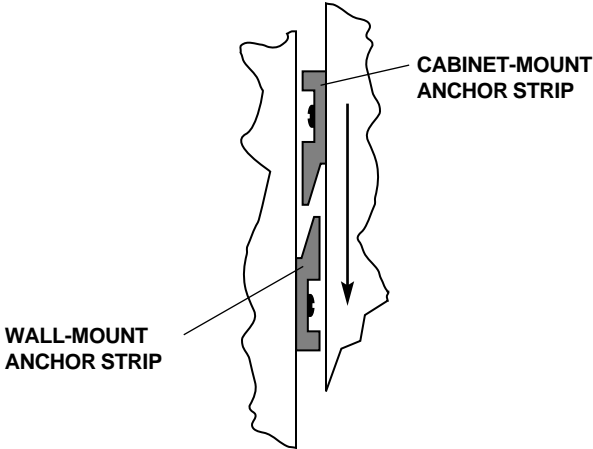

FIGURE 11
- 2. Lift the cabinet assembly and place it against the wall. Slide it down so the mounting anchor clips engage (see Figure 11).